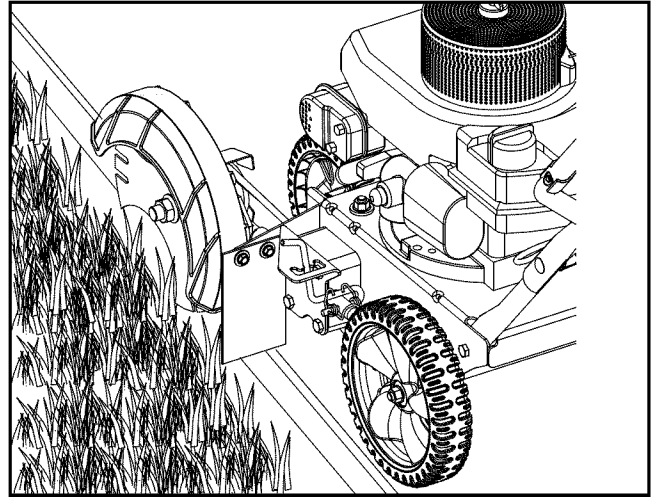

Figure 5
1. Move the unit over to the area to be edged, making sure that the left rear wheel is on a hard surface and the blade is over the area to be cut. See Figure 5.